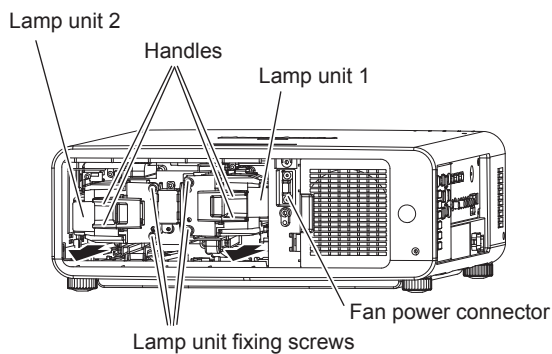

Fig. 2
3) Remove the lamp unit. (Fig. 2)